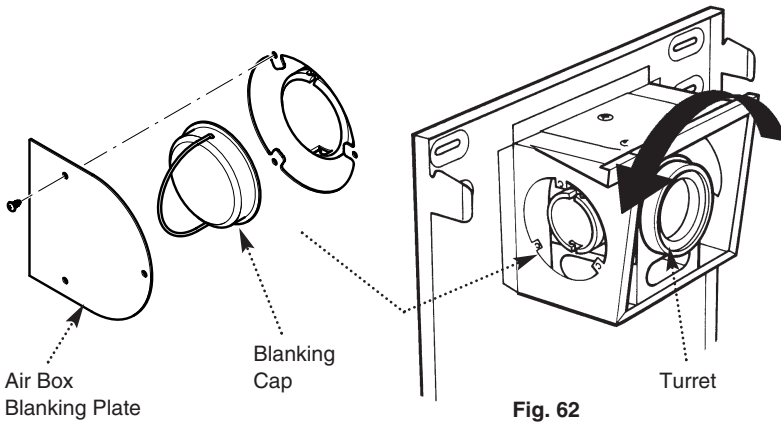

Fig. 61
1. Remove the left or right hand air box blanking plate, as appropriate, from the back plate air box by releasing the three screws (Fig. 61).
2. Rotate the turret to face the selected opening (Fig. 62) and remove the side blanking cap by pushing in and turning anti-clockwise to release the bayonet fitting (Fig. 61).